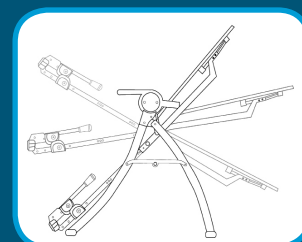

Figure 1
**BEFORE YOU INVERT** make sure that the table rotates smoothly to the fully inverted position and back (Figure 1), and that all fasteners are secure. Make sure the user settings described below are properly adjusted for your unique needs and body type. Take your time finding your proper settings and remember them. Check these settings every time prior to using the equipment.